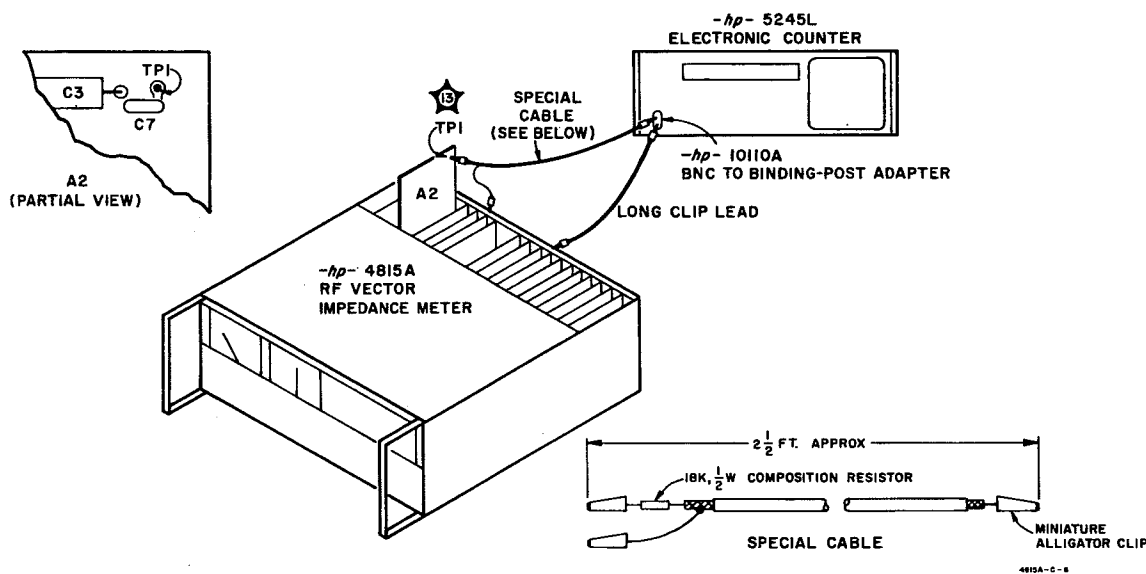

Figure 5-6. Setup for Reference Oscillator Adjustment
- a. Make connections as shown in Figure 5-6. Connect \star to Frequency Counter using special cable illustrated.
- c. Connect A2TPI, , to loose lead of A13C5 using special cable illustrated in Figure 5-6.